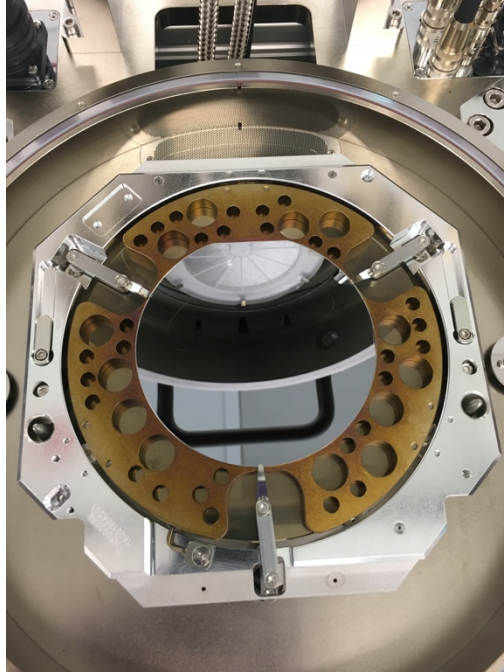

Figure 3: Correct alignment of glass wafer on top of Si wafer and spacers
- vi. Place and align glass wafer on top of Si wafer/spacers. See Figure 3 for correct alignment example.